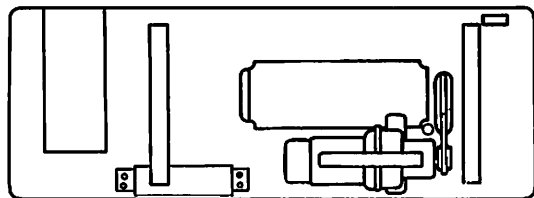

Fig. 1
- 2) Fig.1 shows the rear view of the set-up.